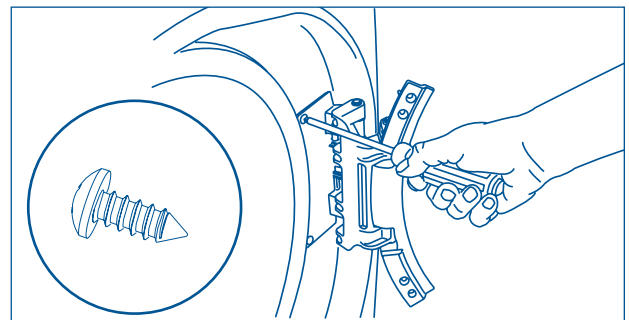

Figure 2-23.
6. Install 2 short, course-thread, panhead screws through hinge plate. (See Figure 2-23)